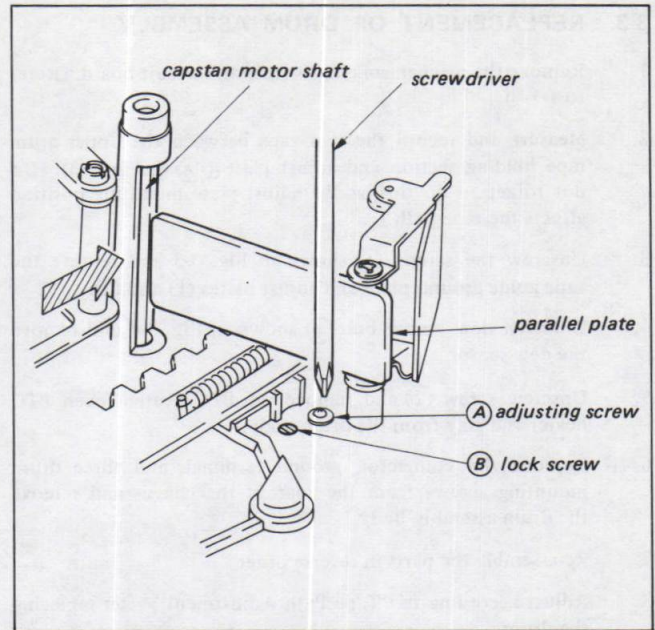

Fig. 3-6. Perpendicular adjustment of capstan motor shaft
- 1) Place parallel plate (Tool Ref. No. J-2) on No. 10 guide sleeve of the pinch crimp arm assembly perpendicularly, as shown in Fig. 3-6.
- 2) Loosen Screw ②.
- 3) Rotate adjusting screw ① and align the capstan shaft perpendicularly.
- 4) Tighten screw ② and fix the capstan motor.